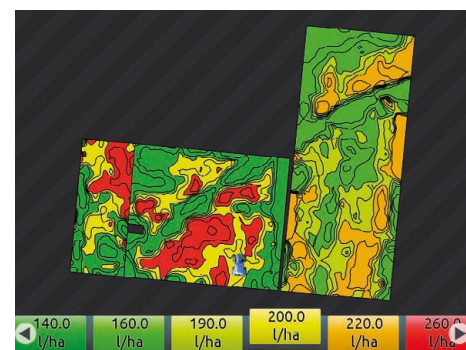

Fig. 279
- Proceed with the spraying. According to the position detected by the GPS receiver, the monitor will use the appropriate spray rate for the area that is being sprayed (Fig. 279).